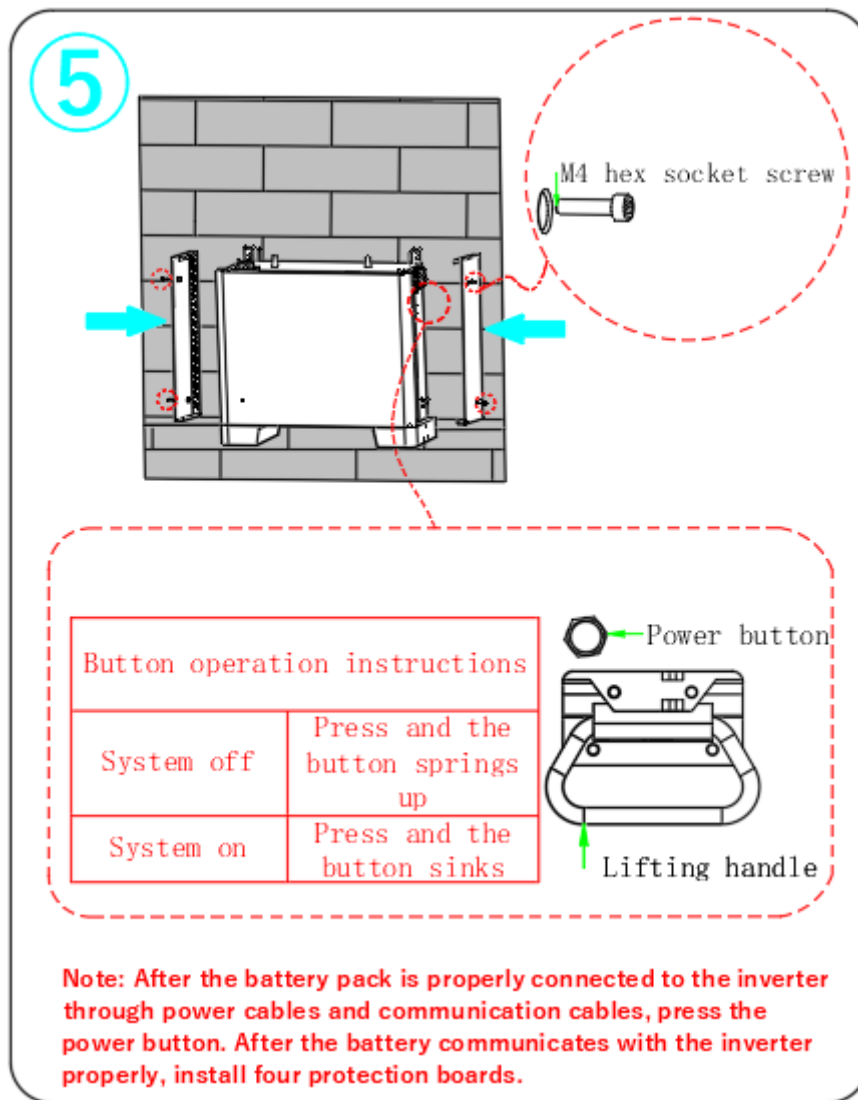

FIGURE 4.2: STEP5
- Step 5: After the battery pack is properly connected to the inverter through power cables and communication cables, press the power button. After the communication between batteries and inverters is normal, install the battery pack protection boards in sequence as shown in Figure 4.2.